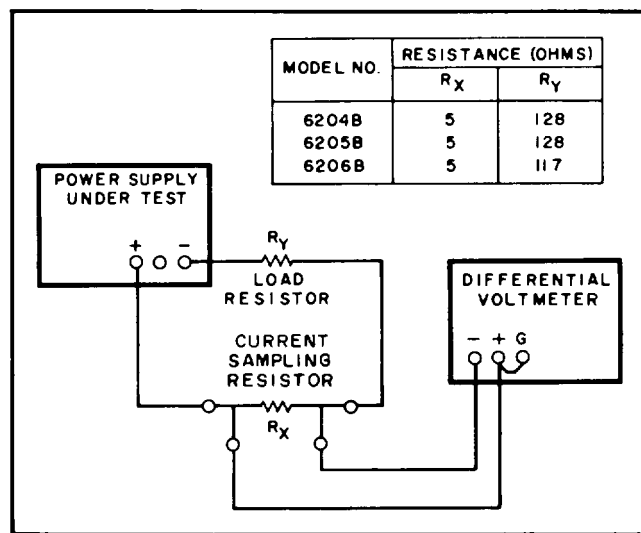

Figure 5-4. Output Current, Test Setup
a. Connect test setup shown in Figure 5-4.
5-36 The maximum load ratings listed in Figure 5-4 must be observed in order to preserve the mer-